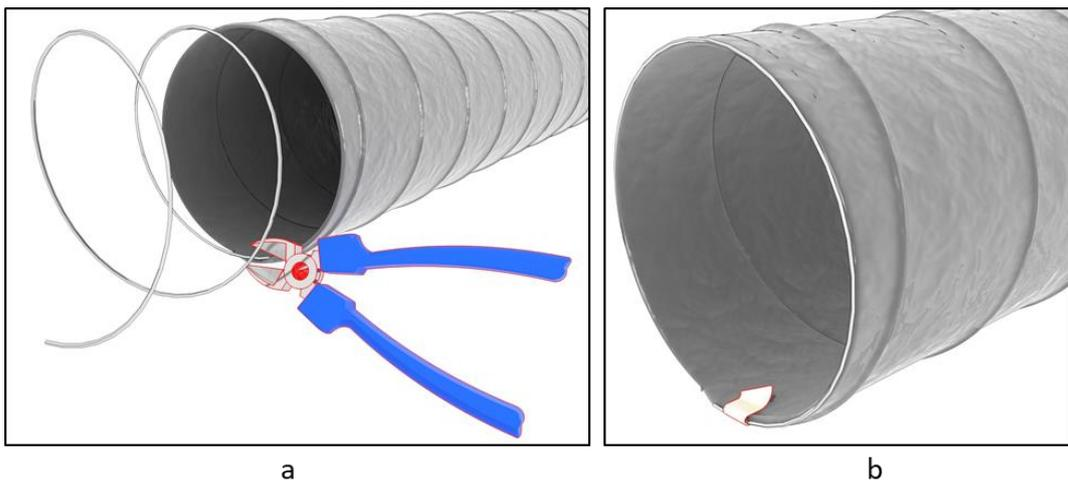

Figure 64. Cut the metal wire and hold the metal wire with scotch tape (a - b).
2. Cut with the help of a nipper the metal wire inside the grey tube, see Figure 64 a. Hold the metal wire tip with some scotch tape. See Figure 64 b.